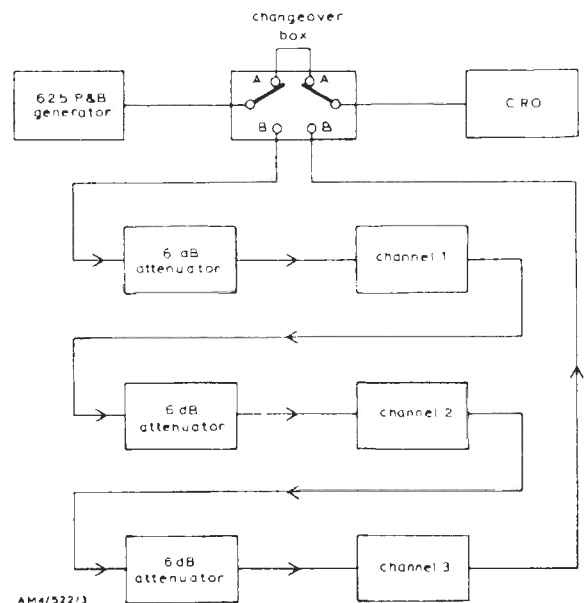

Fig. 3. Test Arrangement for Checking P-B Ratio
10. Set up the circuit of Fig. 3. Switch the changeover box to A to display the IT pulse from the generator. Check for correct pulse-to-bar ratio. Switch the changeover box to B to display the pulse after passing through the amplifiers. The pulse height change should be less than 4 mV and the pulse pre-shoot change less than 12 mV.